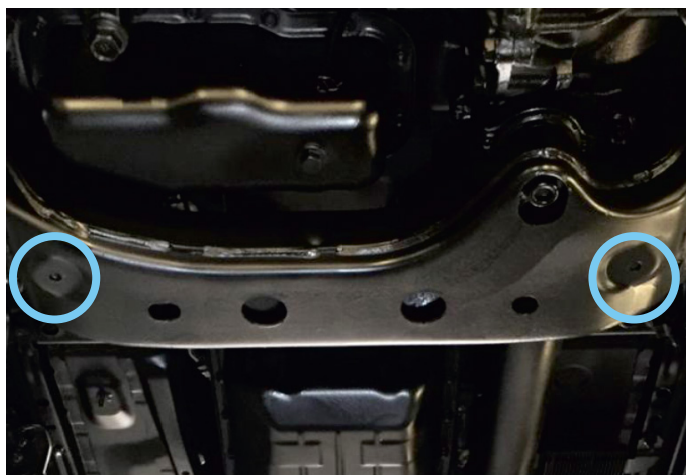

Fig.3
3. Loosely install M8x30 bolts (item A), M8 flat washers (item B), and spacers (item C) in rear mounting points circled in fig.3.